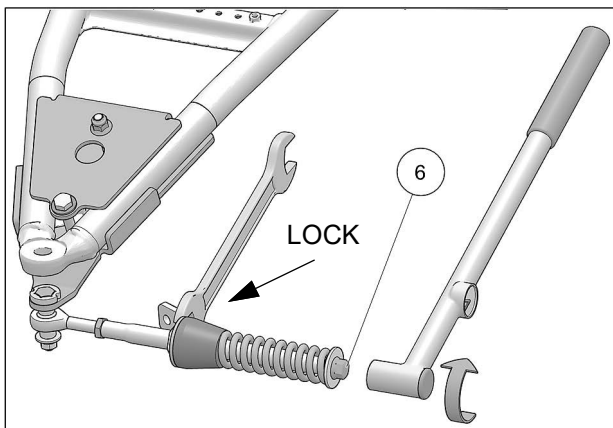

Fig. 26
15. Verify that spring assembly bolt (6) is tightened to the recommended torque specification: 75 Nm [55 lb•ft]. Make sure to lock in position, the large nut in front of the rubber cone damper. See Fig. 26